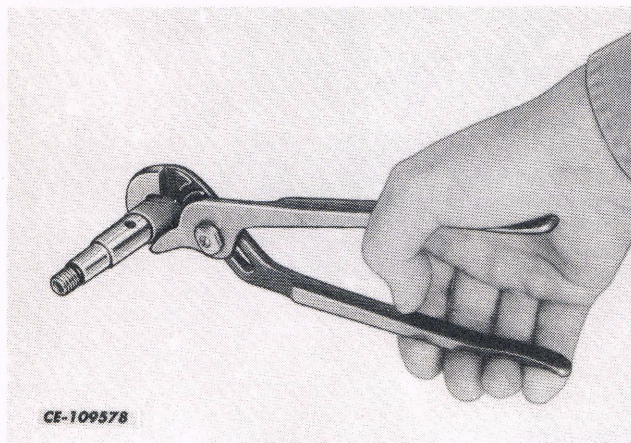

Fig. 47
6. Wrap emery cloth around the actuator and, using pliers, remove the actuator. See Fig. 47.